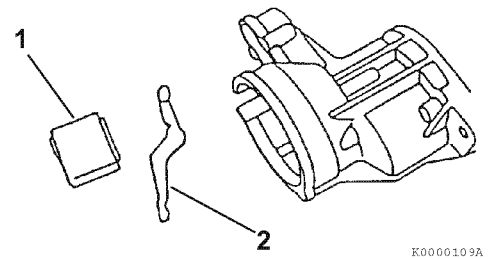

Figure 11-8
8. Disassemble the dust cover (3, **Figure 11-8**) and shift the lever (4, **Figure 11-8**) from the gear housing.